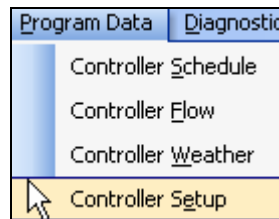

Figure 16.5.1D
- In the toolbar at the top of the screen click on **Program Data** then scroll down to the words **Controller Setup** and click on it (Figure 16.5.1D).